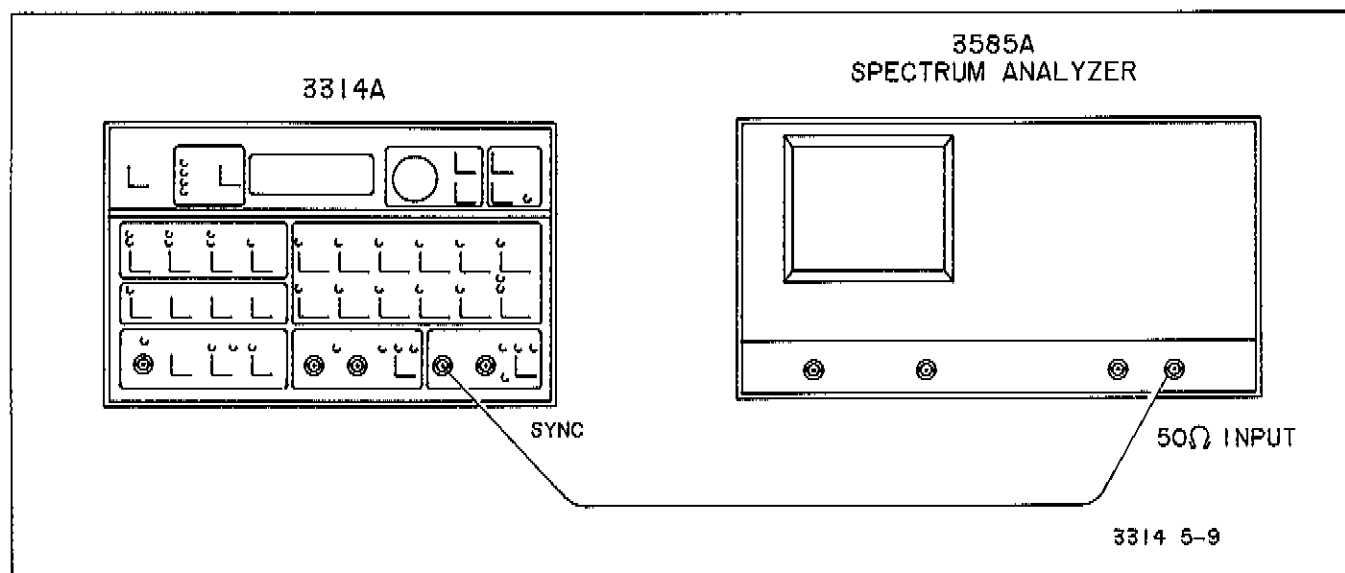

Figure 5-9. Symmetry Adjustment
E. Connect the 3314A to the spectrum analyzer by first removing phono cable A1J8 from the instrument. Second, move the "Sync" cable from A1J1 to A1J2 and connect the 3314A to the analyzer's 50 Ω input via the 3314A's "Sync" output. (See Figure 5-9.)